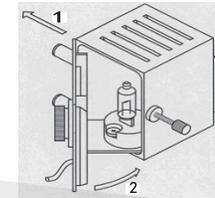

Figure 6.4 Closing the Rear Cover
- 6) Gently push the rear cover in the direction indicated by arrow 1, then rotate in the direction indicated by arrow 2 to cover the rear cover. See Figure 6.4.